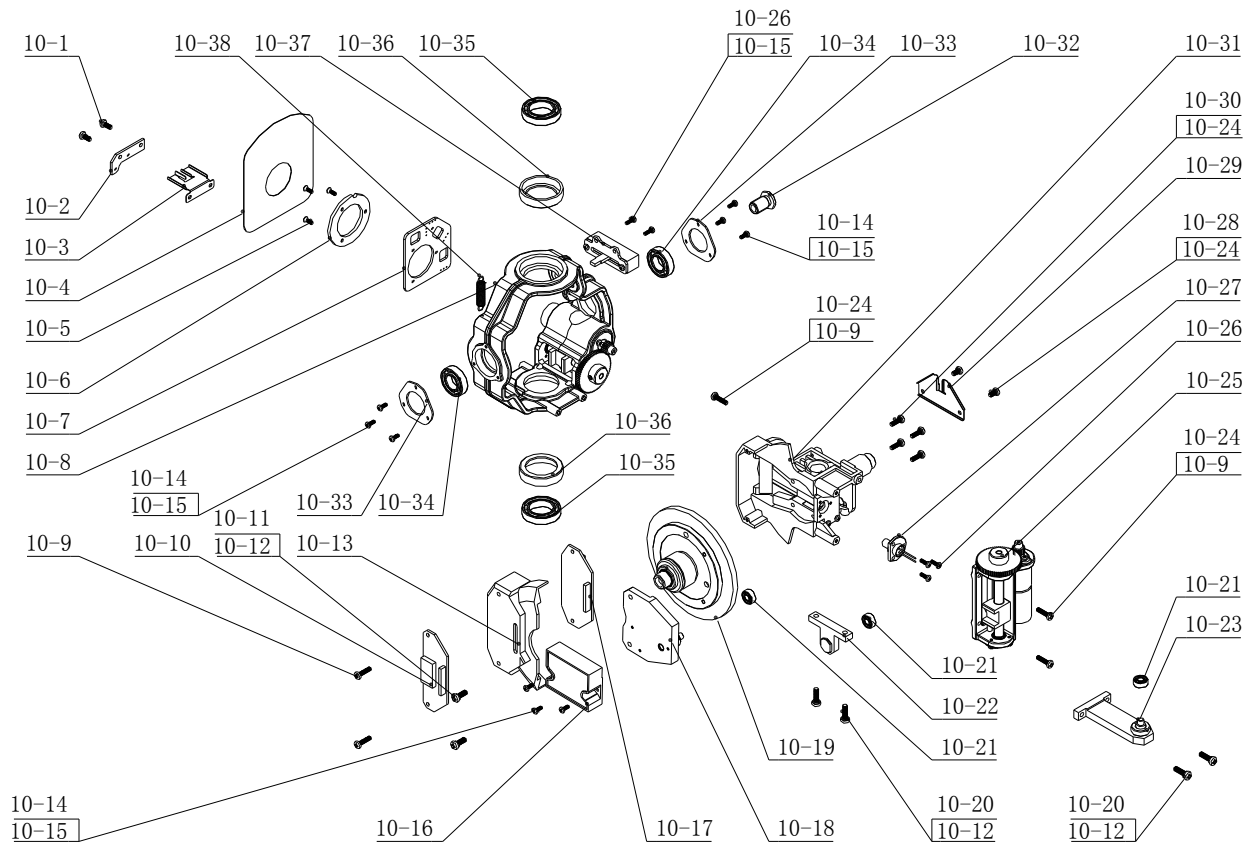

Figure 3 Disassembly of core
- d Socket: Front and back sensor (10-16 sensor in figure 3) plug
- f Socket: Front and back potentiometer (10-37 potentiometer in figure 3) plug
l Socket: motor (assembly on 10-25 frame in figure 3) plug
m Socket: motor (assembly on 10-8 pedestal in figure 3) plug